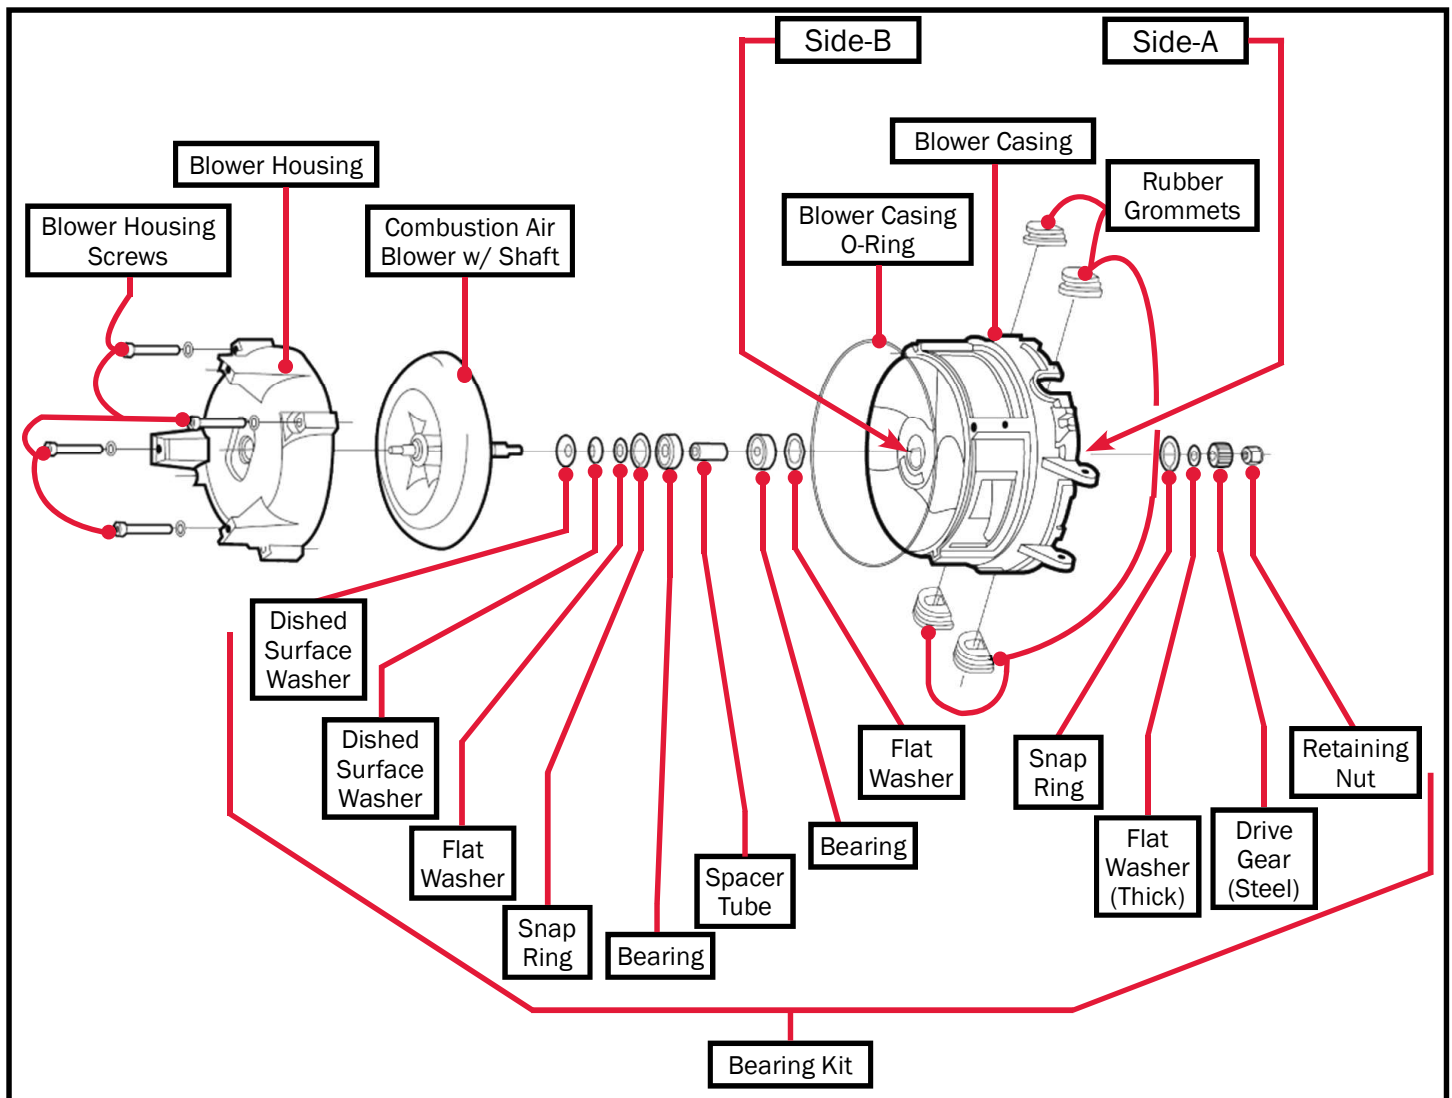

Figure 89b
- Hold side-B (see Figure 89b) of the blower casing and loosen the retaining nut located in side-A of the blower casing. Remove the retaining nut, steel drive gear and thick flat washer from the combustion air blower's shaft. Lightly tap the threaded end of the shaft so that the combustion air blower can be easily removed from the blower casing.